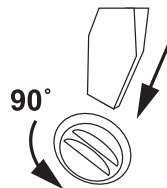

Figure 8
- Remove the lid from the water purifier by turning the three latches anticlockwise by 90 °C (Fig. 8).